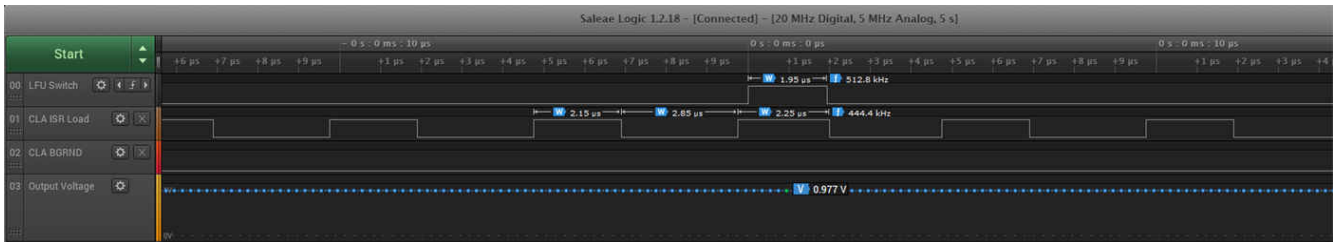
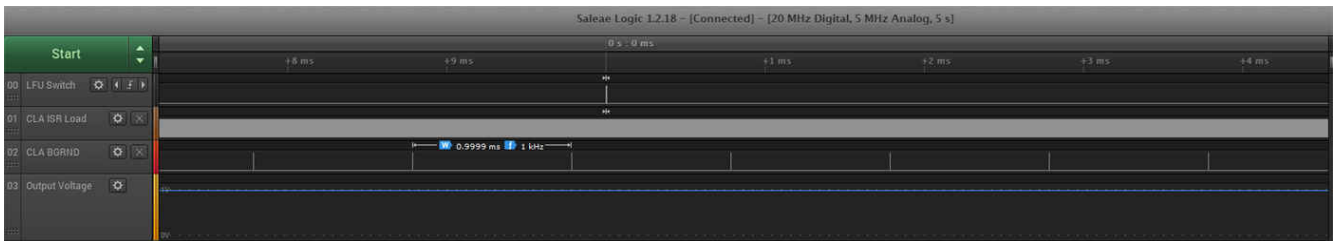

図 3-7. LFU Switchover Timing – Control loop on CLA
図 3-8. CLA Background Task
3. 図 3-7 and 図 3-8 demonstrate LFU switchover with the Control loop running on the CLA. There is a background task that toggles a GPIO every 1ms, and this GPIO is available on header J4 of the Launchpad, signal 33. Note how the LFU switchover in this case can, in general, overlap with ISR execution, because the ISR executes on the CLA whereas LFU occurs on the CPU. This is not an issue in general, but there can be scenarios where this is not acceptable. The signals shown in 図 3-7 and 図 3-8 are LFU switchover, CLA ISR load, CLA background task execution, and the regulated output voltage.